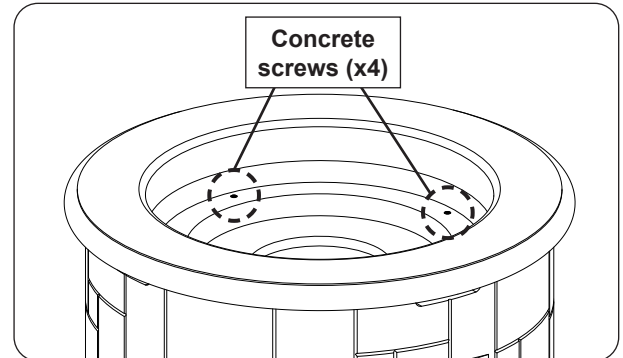

Fig. 33-2 Remove concrete screws
1. Remove the 4 concrete screws from the refractory panel (see Fig. 33-2).